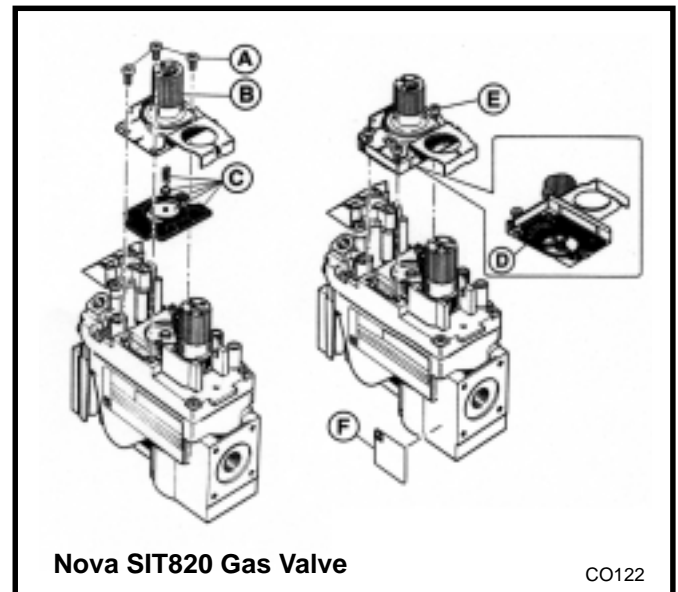

Fig. 47 Nova SIT 820 gas valve conversion.
9. SIT 820 NOVA Gas Control Valve (Fig. 47):
- a) Using a Torx T20 or slotted screwdriver, remove and save three (3) pressure regulator mounting screws (A), pressure regulator tower (B), and diaphragm (C).
- b) Ensure the rubber gasket (D) is properly positioned and install the new Hi/Lo pressure regulator to valve, using the new screws (E) supplied with the kit. Tighten screws securely. (Reference torque: 25 in.lb)
- c) Install the enclosed identification label (F) to the valve body where it can be easily seen.